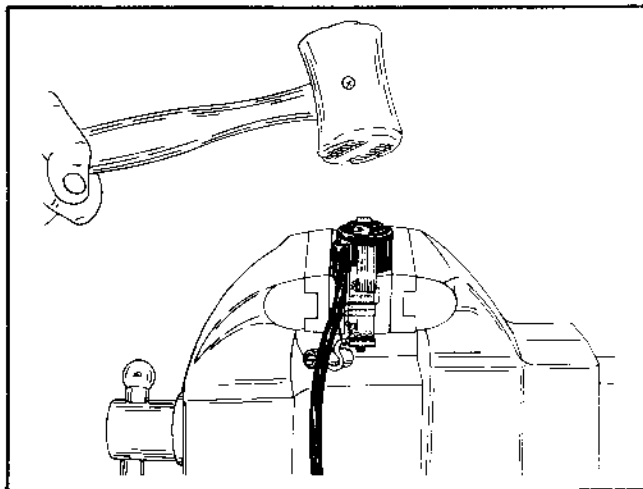

Figure 2-14. Removing Coil
- (1) Support the coil in jaws of a vise with the stator loose. With a mallet rap the center coil core leg sharply to break the bond (Fig. 2-14). The coil may also be removed by cutting on two sides with a hack saw.
- (2) Clean the coil core.
- (3) Secure the new coil with an epoxy bonding material available at local parts suppliers and hardware stores. Use a heat lamp to accelerate the curing time of some epoxy.